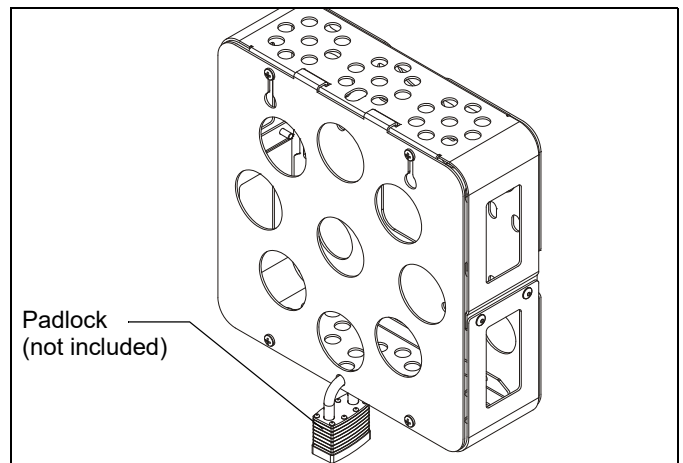

Figure 11
- OPTIONAL:** A padlock (not included) may be added to secure the FCA510/FCA515. (See Figure 11)